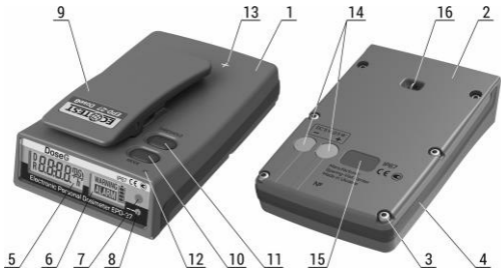
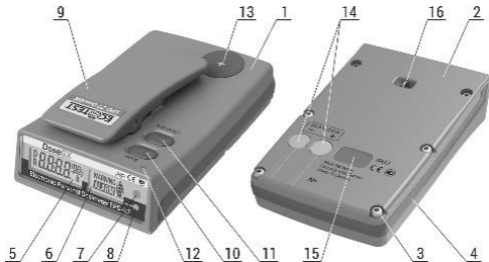

Figure 1.1 – Appearance of EPD-27 "DoseG" dosimeter (overhead view)
Figure 1.2 - Appearance of EPD-27 "DoseGX" dosimeter (overhead view)
The dosimeter (as shown in Figure 1.1 and in Figure 1.2 depending on the modification) is designed as a rectangular parallelepiped whose planes are replaced with the surfaces of large radii of curvature and rounded edges.
The MODE (10) and THRESHOLD (11) buttons (Figure 1.1 and Figure 2.2) are intended to control the dosimeter.